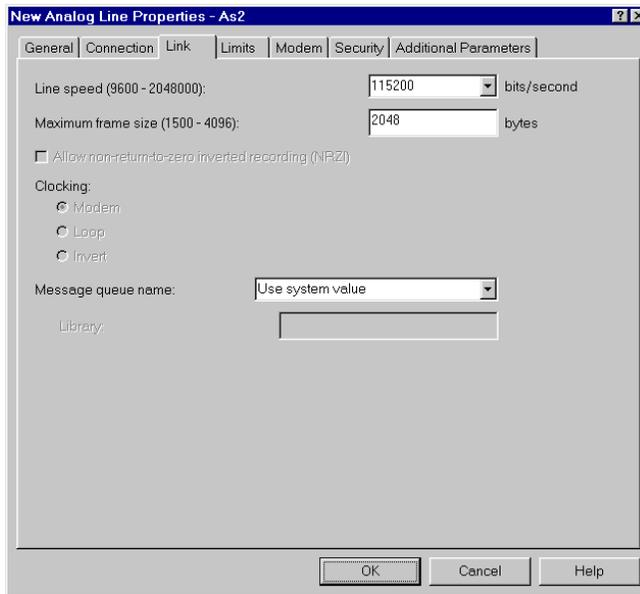

Figure 36. Setting the line speed and maximum frame size
- Click the **Link** tab (Figure 36).